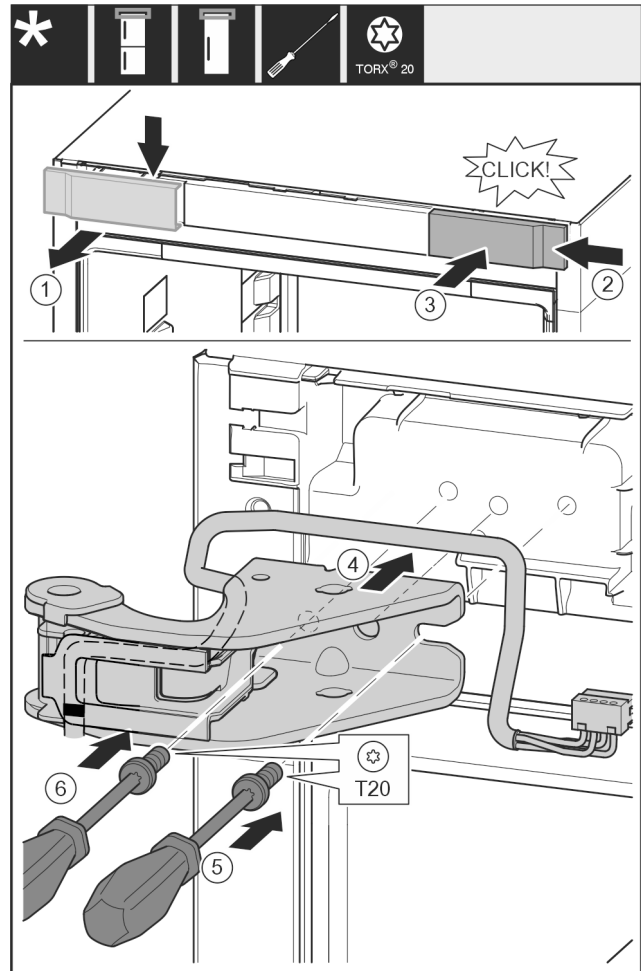

Fig. 32
- Take off the cover from above to the front. Fig. 32 (1)
- Rotate the cover 180° and clip onto the other side from the right. Fig. 32 (2)
- Latch the cover into place. Fig. 32 (3)
- Position the upper bearing bracket. Fig. 32 (4)
- Insert the screw with a T20 screwdriver and tighten it. Fig. 32 (5)
- Insert the screw with a T20 screwdriver and tighten it. Fig. 32 (6)